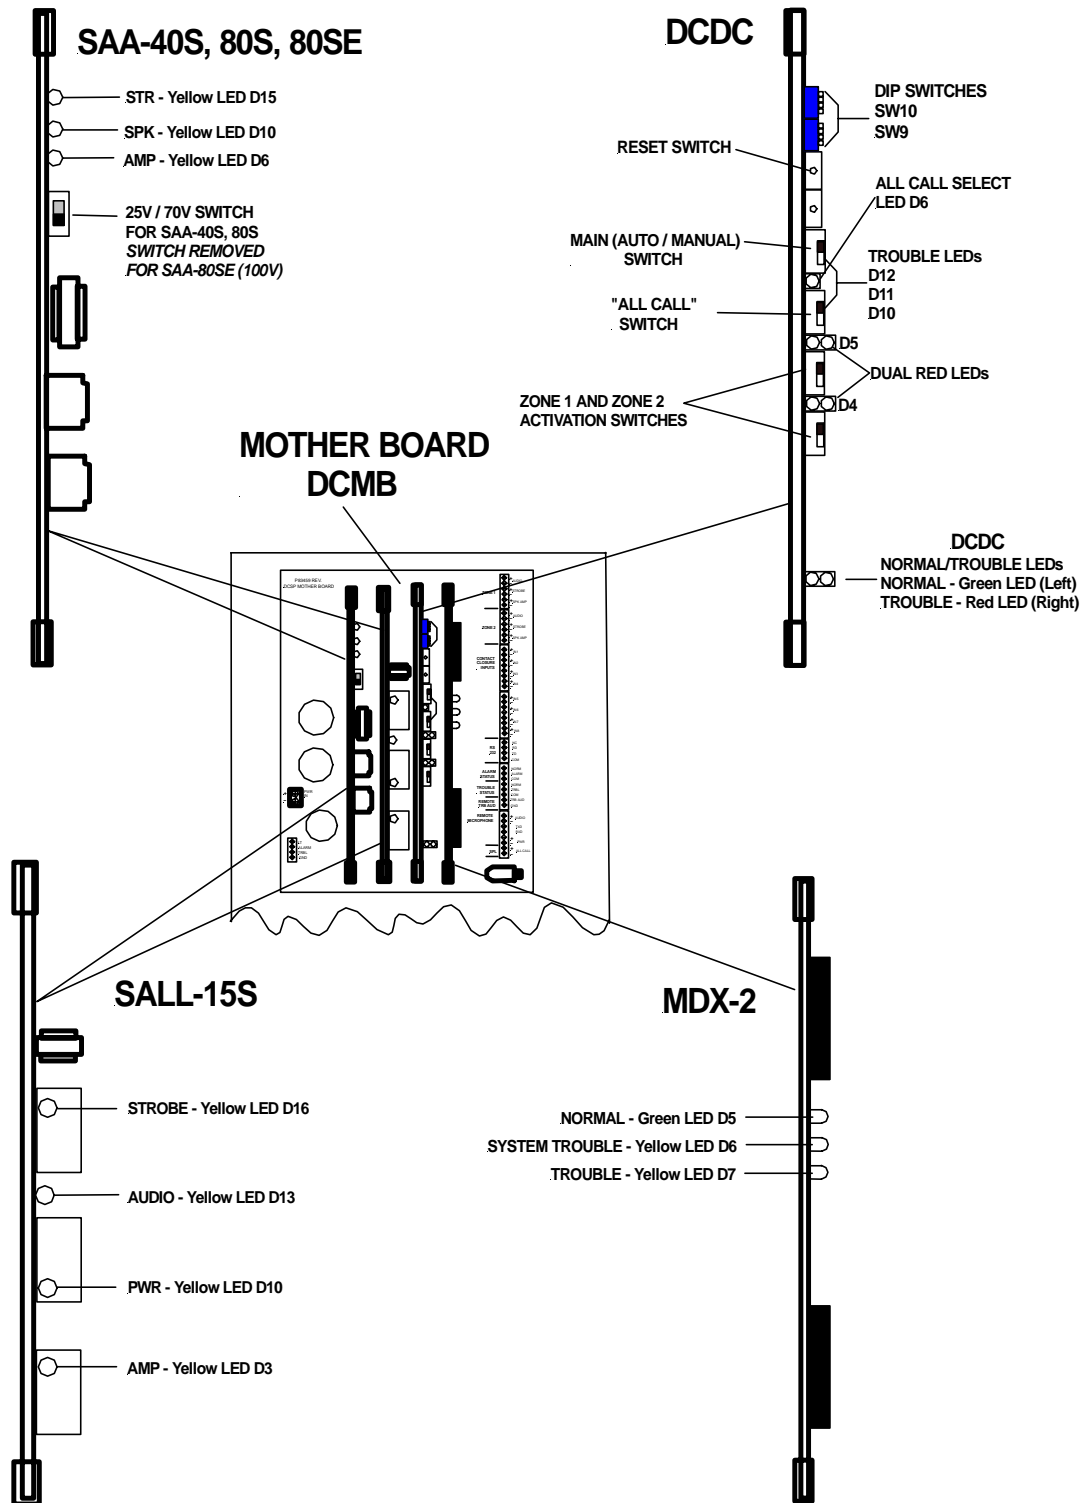
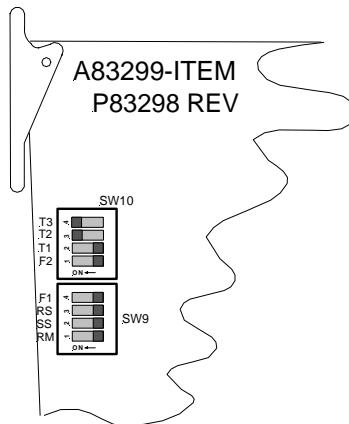

Figure 3-18
Figure 3-20
7. For SAA-40S, 80S Amplifier Module, set 25V / 70V Switch to correct setting for speakers. (See Figure 3-18 on Page 3-18)
1. Place switches on the Dual-Circuit Control Module (DCDC) as follows (See Figure 3-20 for enlarged view of DIP Switches):
(See Figure 3-20)
“ALL CALL” Switch, UP or “ON” position. (See Figure 3-18)
ZONE 1 and ZONE 2 Switches: UP or “ON” position. (See Figure 3-18)
3. With both AC Power and battery backup power applied observe the following indicators (See Figure 3-18 on Page 3-18 for LED locations):
Control Module (DCDC): Right (RED) LEDs D4 and D5 "ON". Relay on DCDC clicks at 1 click per second. When message ends, right LEDs on D4 and D5 "OFF", relay stops clicking. (See Figure 3-18)
Control Module (DCDC): Right (RED) LEDs D4 and D5 "ON". Relay on DCDC clicks at 1 click per second. When microphone button is released, right LEDs D4 and D5 "OFF", relay continues to click. (See Figure 3-18 on Page 3-18)
Press RESET button on DCDC Relay will stop clicking. (See Figure 3-18).
Control Module (DCDC): Right (RED) LEDs D4 and D5 "ON". Relay on DCDC clicks at 1 click per second. Return MAIN Switch to the UP position, right LEDs D4 and D5 "OFF", relay continues to click. (See Figure 3-18 on Page 3-18)
Press RESET button on DCDC Relay will stop clicking. (See Figure 3-18 on Page 3-18).
1. Set Configuration Switches to desired settings for supervision tone. See Figure 3-20 for switch location on the Control Module (DCDC). See Tables 3-2 and 3-3 on Page 3-21 for switch descriptions.
3. Observe the following indicators: (See Figure 3-18 on Page 3-18 for LED locations)
Control Module: Right (RED) LEDs D4 and D5 "ON". (Figure 3-18)
Messages will broadcast on all appliance circuits. If Strobe NAC circuits are in use, Strobes will also flash. With SW9 DIP Switch SS in ON position (Figure 3-20 on Page 3-20), relay on DCDC clicks at 1 click per second. When message ends, Strobes will stop flashing and relay on DCDC will stop clicking.
Control Module: Right (RED) LEDs D4 and D5 "ON". If Strobe NAC circuits are in use, Strobes will also flash. With SW9 DIP Switch SS in ON position (Figure 3-20 on Page 3-20), relay on DCDC clicks at 1 click per second. When microphone button is released, right LEDs D4 and D5 "OFF", strobes and relay on DCDC will continue to operate.
Control Module (DCDC): Right (RED) LEDs D4 and D5 "ON". If Strobe NAC circuits are in use, Strobes will also flash. With SW9 DIP Switch SS in ON position (Figure 3-20 on Page 3-20), relay on DCDC clicks at 1 click per second. Return MAIN Switch to the UP position, right LEDs D4 and D5 "OFF", strobes and relay on DCDC will continue to operate. (See Figure 3-18)
6. If Remote Microphone Station (RMS-3) is included, enable it by switching SW9-1 (RM) DIP Switch to "ON" on the Dual-Circuit Control Module (DCDC). (See Figure 3-20 on Page 3-20)
8. Turn "OFF" ALL CALL, and ZONE 1 and ZONE 2 Switches. On the DCDC Module, all LEDs should be "OFF" except the NORMAL (Green) LED. (Figure 3-18 on Page 3-18)